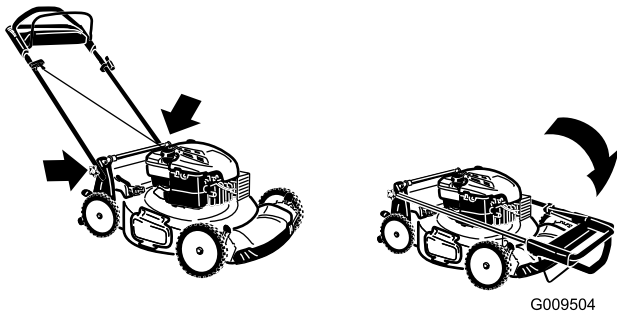

Figure 20
3. Fold the upper handle forward as shown in Figure 20.